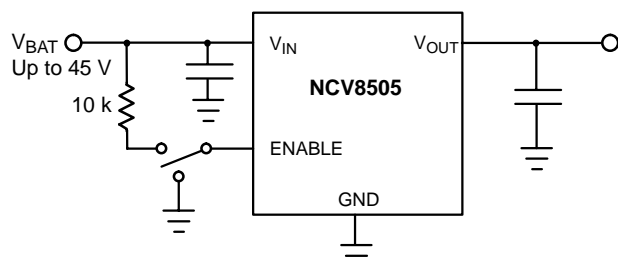

Figure 14. ENABLE Function
**Reference Figure 14 for switched-battery ENABLE application.